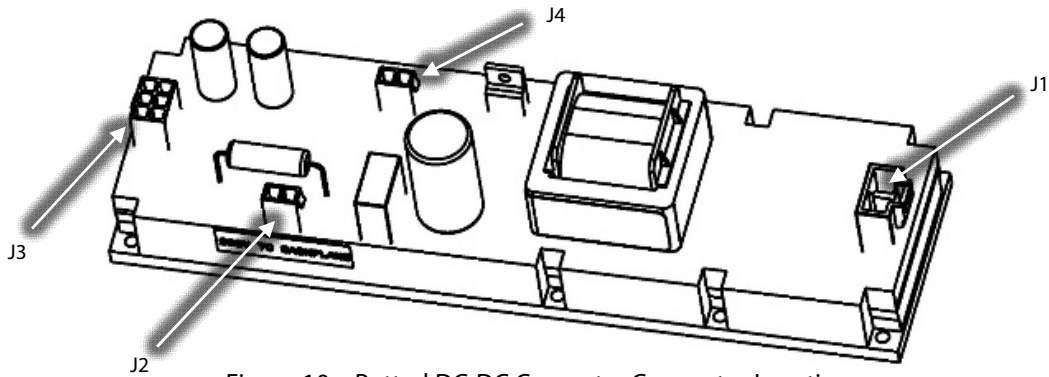

Figure 10 – Potted DC-DC Converter Connector Locations
- d. Remove connector J1 from the DC-DC. Refer to Figure 10 – *Potted DC-DC Converter Connector Locations*.
- c. Remove connector J1 from the DC-DC. Refer to Figure 10 – *Potted DC-DC Converter Connector Locations*.